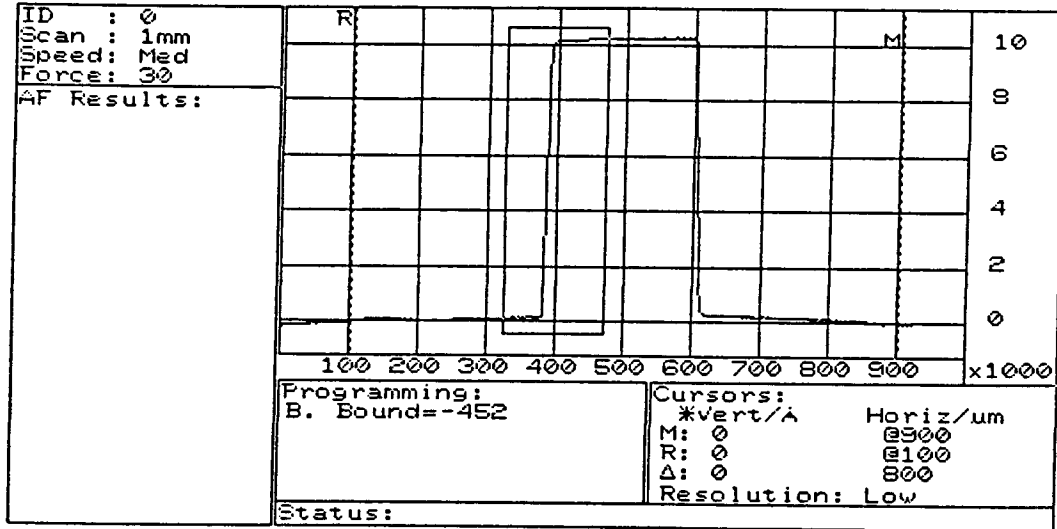
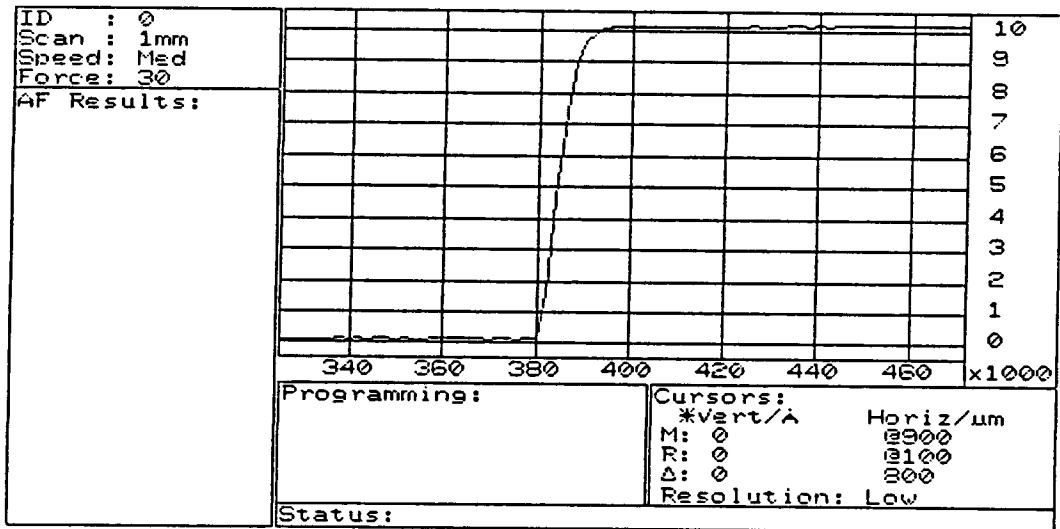

Figure 4-9. Moving the Boundaries
Figure 4-10. After REPLOT
To magnify an area of interest, press **LEFT** and use the right arrow key to bring the left boundary near the leading edge of the step. Repeat the procedure using the **RT**, **BOT** and **TOP** keys along with the appropriate arrow keys until the screen looks like Figure 4-9.
Press **RPLT**. Figure 4-10 shows the replotted profile of Figure 4-9. The graph is rescaled, and the profile has been magnified to allow easy measurement.
Press **RST,0**. The original saved boundaries in Figure 4-10 will be restored.
4. Press **RPLT**. A display similar to Figure 4-10 will be displayed.